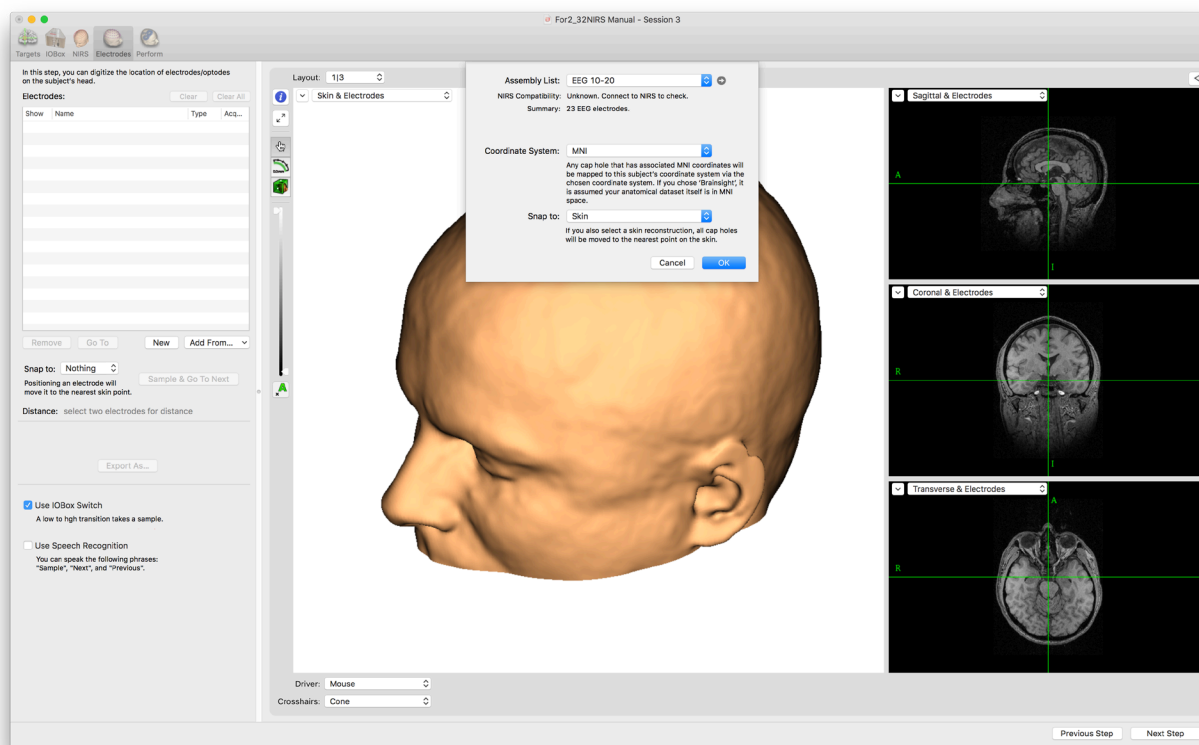

Fig. 15-1
- If you have not applied an assembly list yet in the NIRS step ("Perform: Optimize NIRS Parameters"), Click **Add From->Assembly List...** and an assembly list selection sheet will appear (Fig. 15-1).